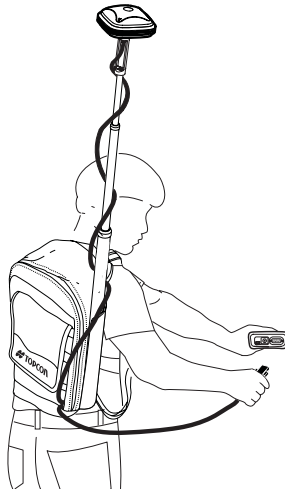

Figure 2-8. Getting Ready to Survey (with Serial Cable)
6. Carefully put on the backpack. Once positioned comfortably, connect the receiver and hand-held controller with the serial cable or using Bluetooth, and turn on the controller (Figure 2-8 on page 2-12).